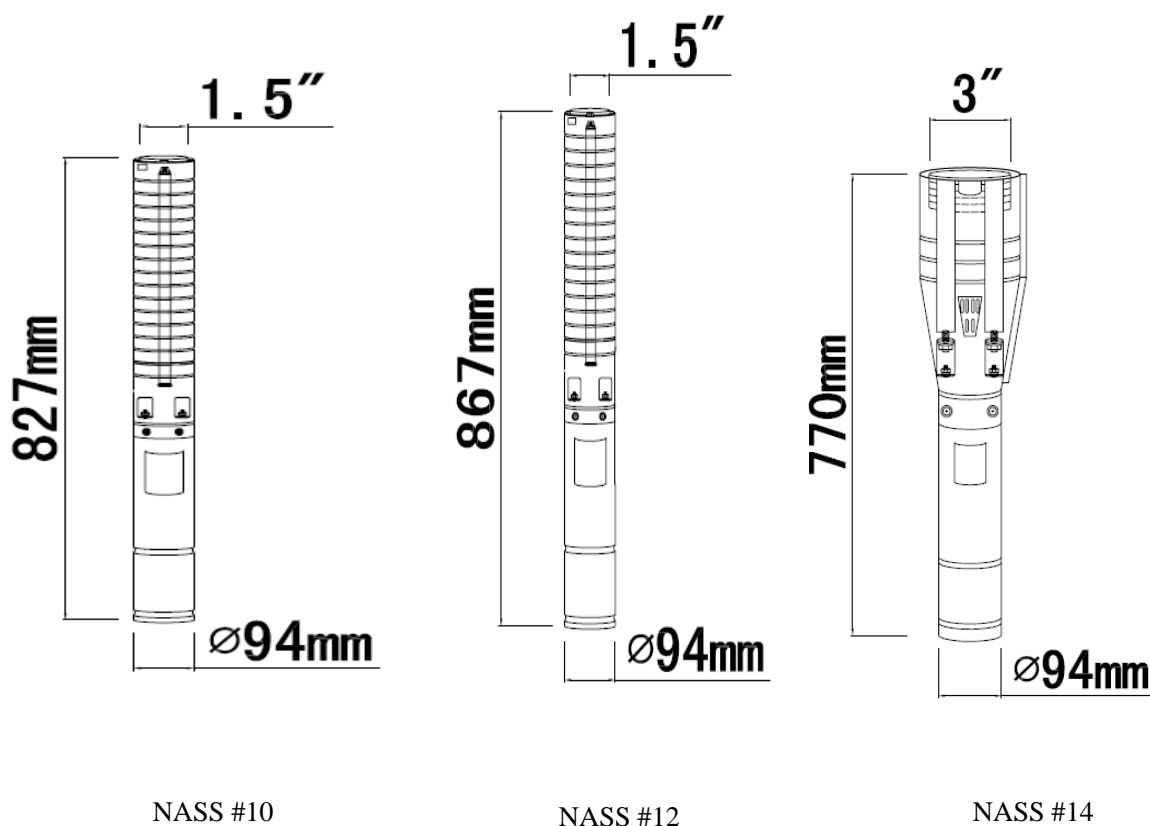

Figure 3. Outline Dimension
6. Solder all 3 connections, Fig 3